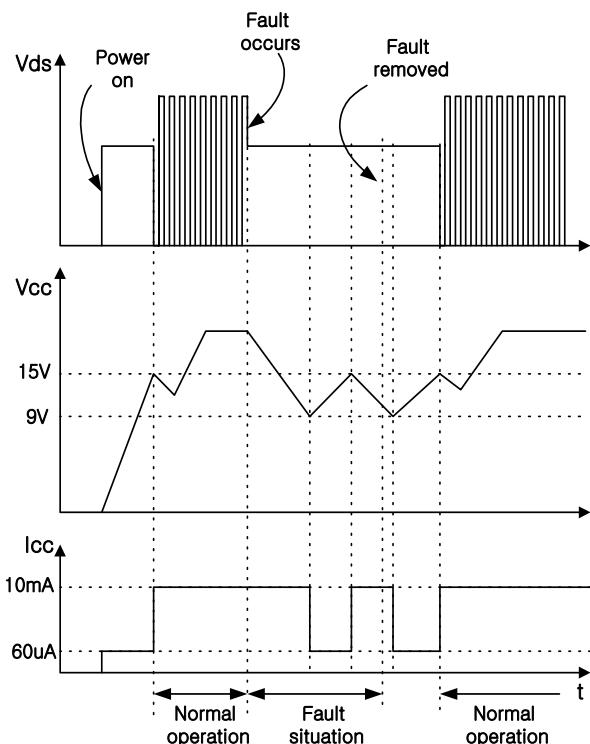

Figure 3. Auto restart operation after protection
3. Protection Circuit : Besides pulse-by-pulse current limit, the FS6X1220R has 3 self protection functions; over load protection (OLP), over voltage protection (OVP) and thermal shutdown (TSD). Because these protection circuits are fully integrated into the IC without external components, the reliability can be improved. In the event of these fault conditions, FS6X1220R enters into auto-restart operation. Once the fault condition occurs, switching operation is terminated and MOSFET remains off, which causes Vcc to be reduced. When Vcc reaches 9V, the protection is reset and the supply current reduces to 60 μ A. Then, Vcc begins to increase with the current provided through the start-up resistor. When Vcc reaches 15V, FS6X1220R resumes its normal operation if the fault condition is removed. In this manner, the auto-restart alternately enables and disables the switching of the power MOSFET until the fault condition is eliminated as illustrated in figure 3.